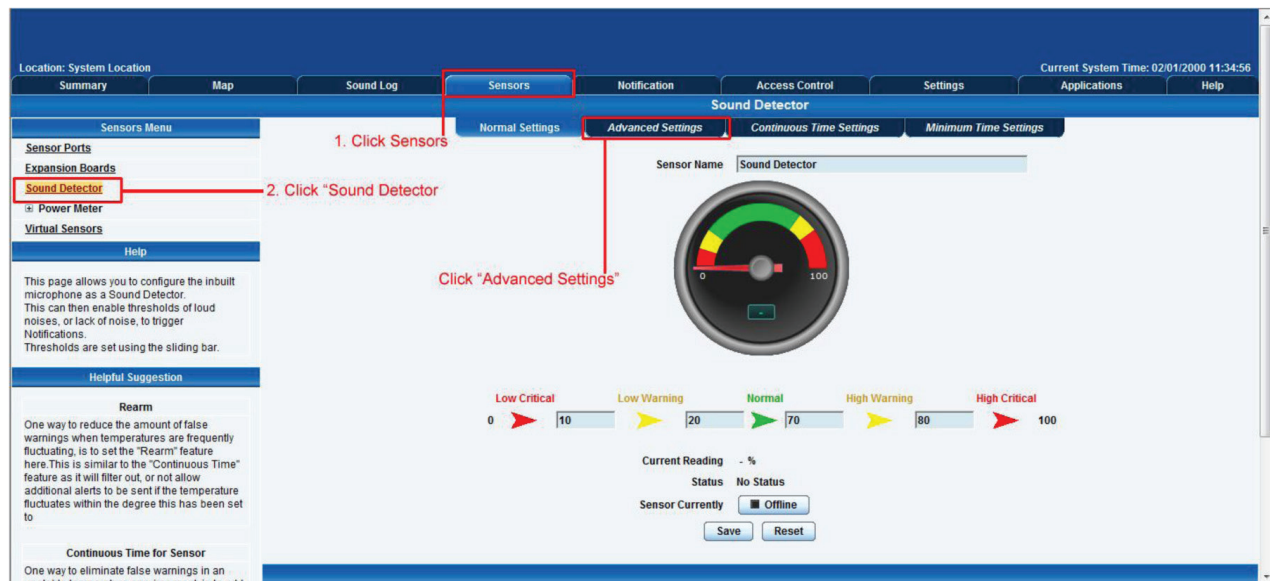

Figure 3-48. Sound Detector tab.
1. Click “Sound Detector” under the Sensors menu. See Figure 3-48.